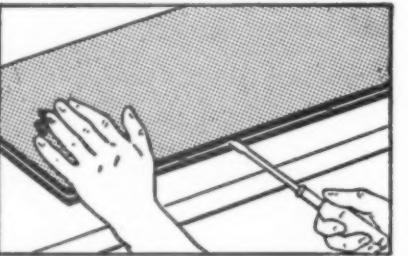

Figure 8
- Separate plies on female end of belt for a distance three inches longer than overall lap length (Fig. 8).